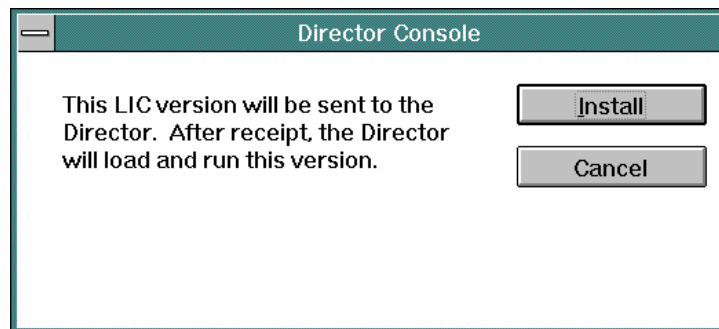

Figure 169. Install LIC Version to Director Message Box
12. At the *LIC Versions* dialog box, select (highlight) the LIC version to be installed and click the *Install* button. The message box shown in Figure 169 appears.